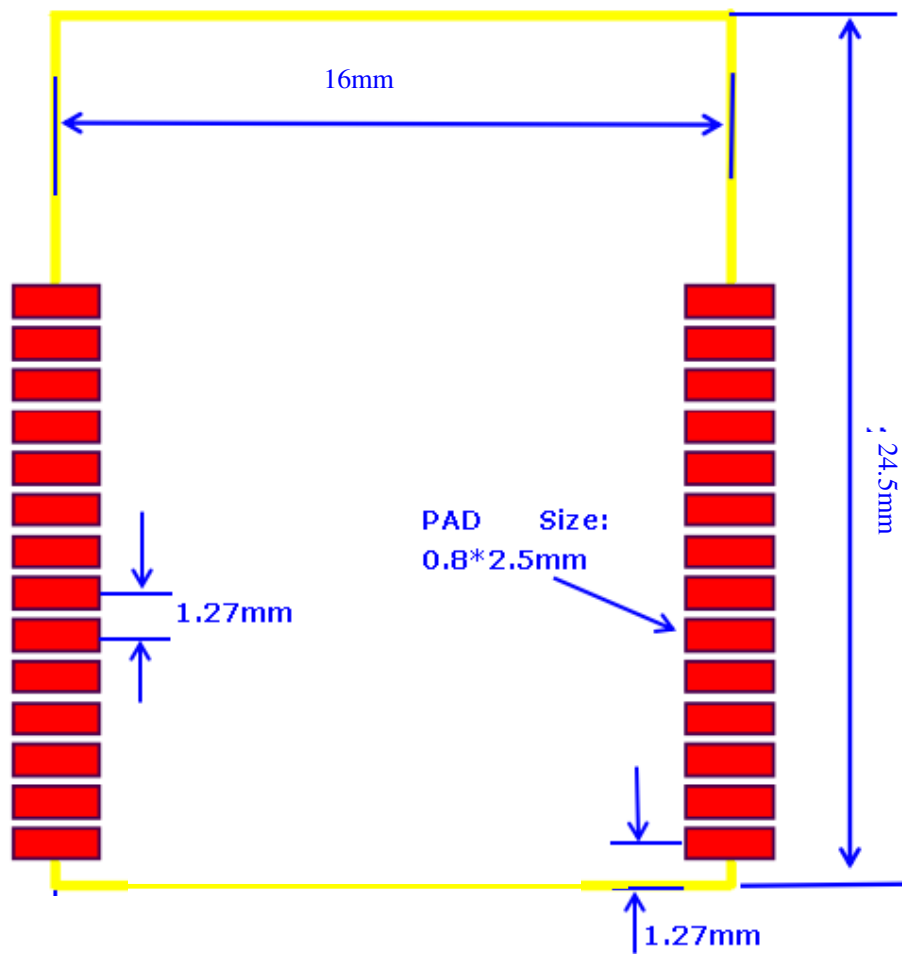
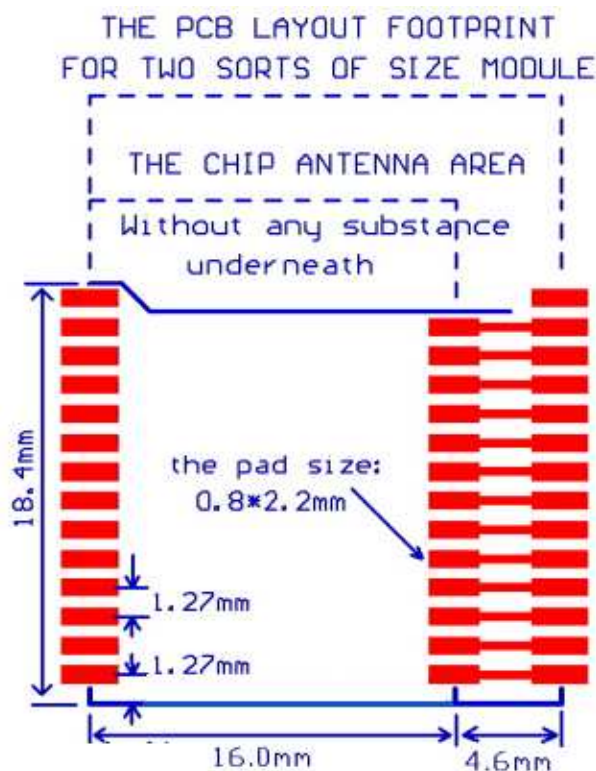

Figure 5 R107H PCB Layout dimension
Figure 6 Suggested Module Footprint Layout
The figure 5 shows the proper layout footprint for the module. The footprint shown by figure 6 is also fit for the PA module offered by NETVOX. The area underneath the module should be covered with a solid ground plane.
*And for greater flexibility and compatibility, the footprint shown by Figure 6 is strongly recommended to use.*